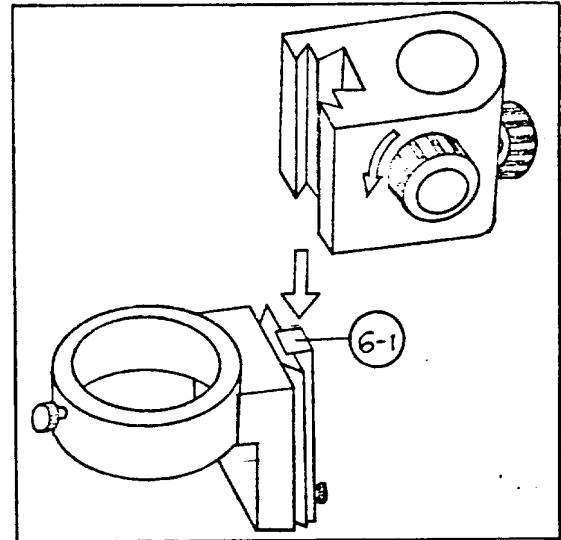

Fig. 63
- 2) Sliding down the rack, draw it with dovetail and the clamp mount out from the dovetail groove (Fig. 63).